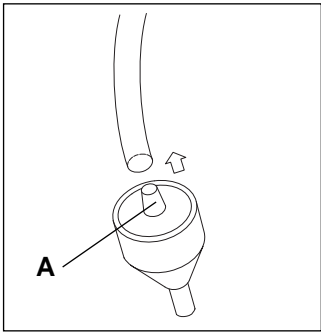

Figure 9.14
- 5. Insert narrower end (A) (Figure 9.14) of new check valve into tubing, pressing tubing over end of valve as far as possible.